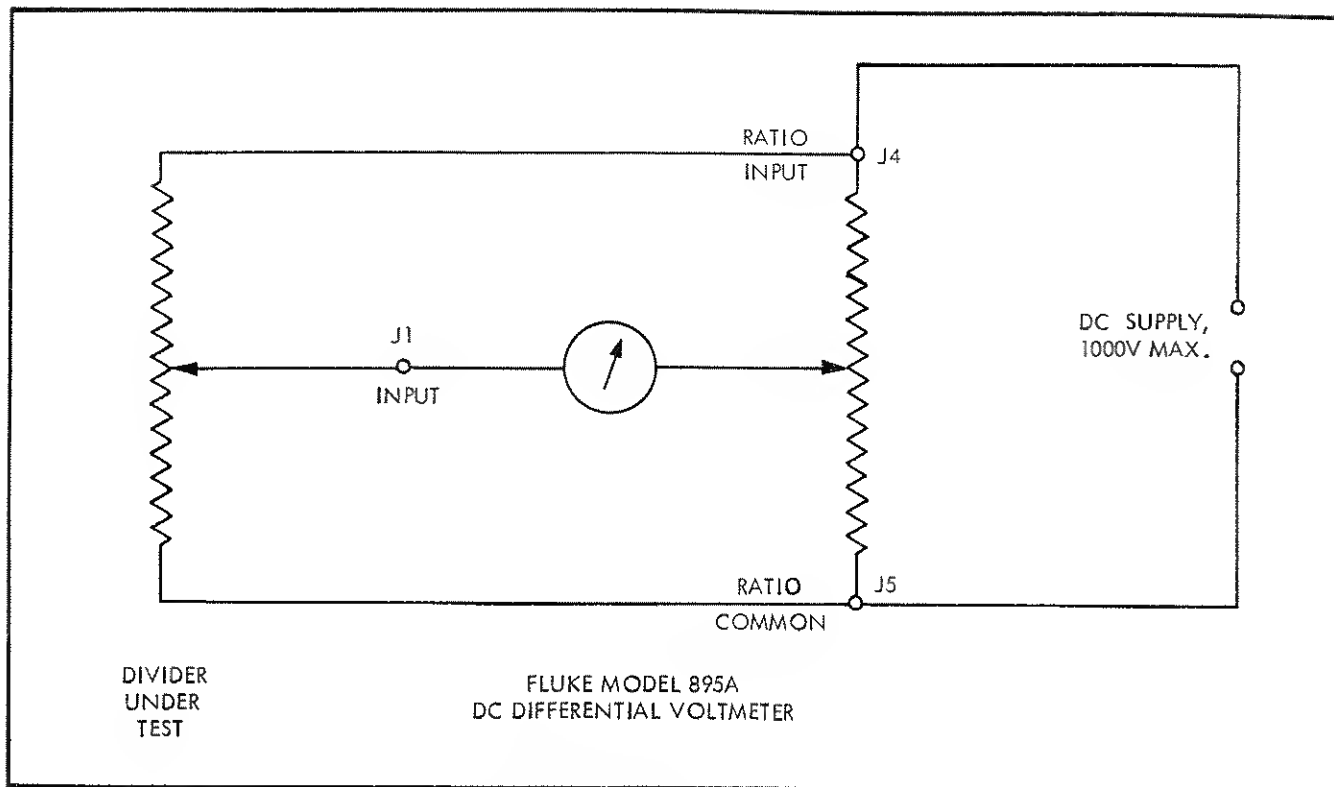

Figure 2-6. MEASUREMENT OF RESISTANCE RATIOS
- The equipment connection is illustrated in Figure 2-6. The output of the test divider is applied to the INPUT post, and the input terminals of the test divider, and output of the power source, are connected to the RATIO terminals.